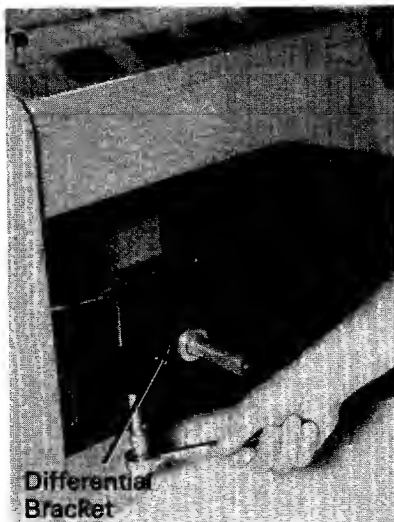

FIGURE 42.
1. To tighten the chain, loosen the two nuts on each side of the frame holding the differential bracket to the frame. See figure 42.